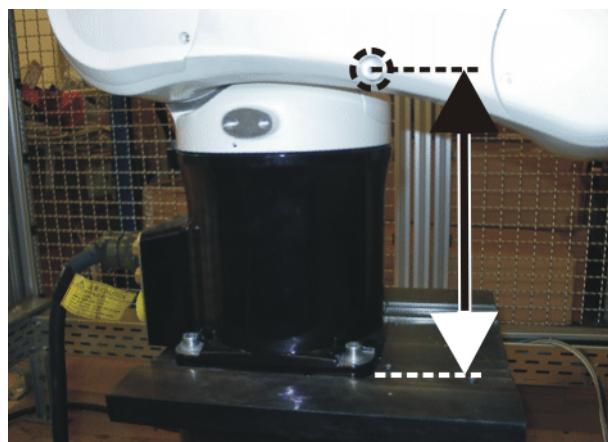

Fig. 11-28: Pre-mastering position A2
- Move A2 into the following position: the distance (measured vertically) between the center of the screw and the lower edge of the base must be **270 mm** (**>>> Fig. 11-28**).